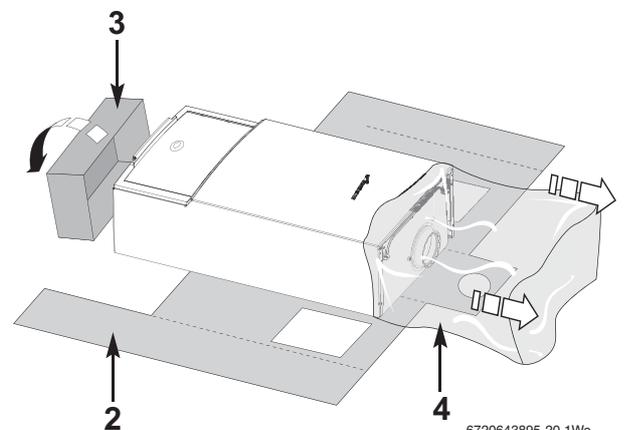
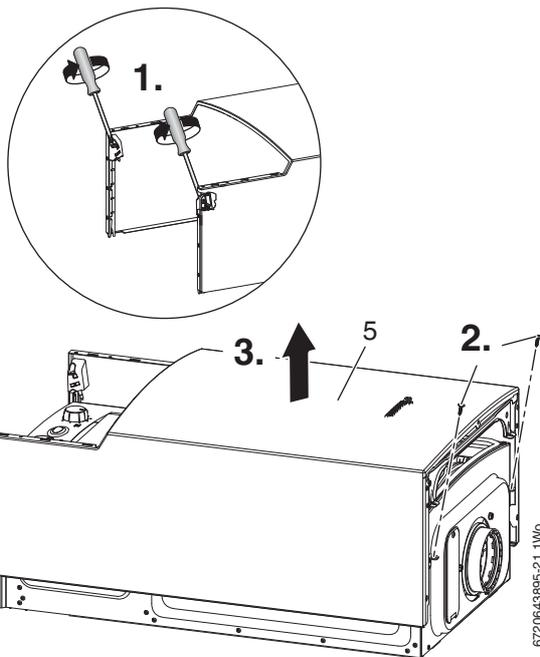

Fig. 26 Remove packaging
Fig. 27 Outer case screw removal
- ▶ Remove outer carton (1) and place safely away from the working area.
- ▶ With the outer packaging removed and the inner sleeve (2) still in place gently lay the boiler on its back.
- ▶ The boiler will lie at an angle to the floor to allow the boiler outer casing (5) to be removed.
- ▶ The inner sleeve (2) opens as shown in figure 26.
- ▶ Remove the protective wrapping (4).
2. Undo the two screws at the top (see fig. 27).
3. Remove the outer case (5).
- ▶ Remove any packaging within the boiler and the packaging base (3).